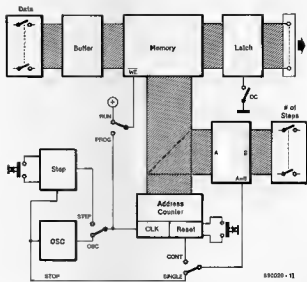

Fig. 1. Block diagram of the test pattern generator for digital circuits.
The block diagram in Fig. 1 shows that the heart of the circuit is formed by a RAM memory. Two 8-way DIL switch blocks serve to program the test words and the length of the test word sequence. The memory locations are addressed by a counter, which counts from 0 to 255. The generated address (A) is compared to the preset length of the sequence (B). When A and B are equal, output A=B of the word comparator is actuated. Depending on the position of the mode selection switch, the test pattern is either stopped or repeated. When the switch is set to CONTINUOUS, the output signal of the comparator causes the address counter to be reset and to start counting from 0 again. When the mode switch is set to SINGLE, the oscillator is inhibited, so that the last counter state is 'frozen'.